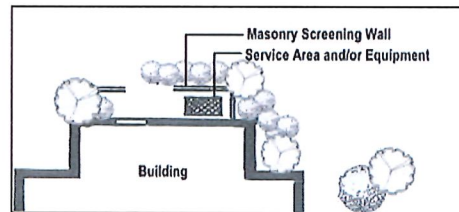

Figure 15: Landscaped, Masonry Screening Wall Along Public Rights-of-Way and Access Driveways.
(1) METHODS OF SCREENING.
(a) **Masonry Screening Walls.** A 'Masonry Screening Wall ' used for screening service areas, loading areas, mechanical & utility equipment, waste collection devices, dumpster enclosures or vehicular uses must be opaque and structurally safe, completed with a cap stone and constructed of high quality, masonry; including brick, stone, or cast-stone that is compatible and consistent with the principal building in terms of architectural themes, quality, materials, texture and colors. Masonry Screening Walls shall be attractively landscaped along the foot of the wall at a height at least 1/3 of the wall height. *Wall Heights:* When used for screening vehicular use areas a 'Masonry Screening Wall' shall be at least four (4) feet high. When screening equipment, service areas, waste collection areas and loading areas walls shall be at least eight (8) feet high, or a height necessary that blocks 100 percent (100%) of the service and loading area interior. (Figure 15 and Figure Set 18)